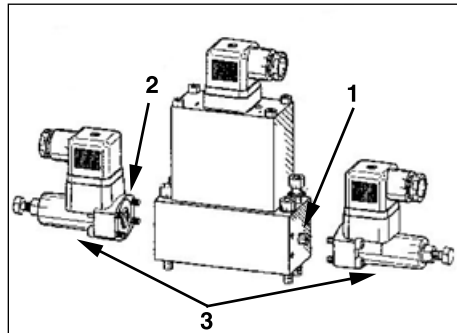

Figure 3
1. Remove cap screw and washer in end of valve body nearest port having pressure measured. (See Figure 3, No. 1).
2. Coat o-ring on pressure switch mounting surface with hydraulic oil. (See Figure 3, No. 2).
3. Install pressure switch on end of valve using cap screws provided with switch; torque to 3 FT-LBS (4-N-M). (See Figure 3, No. 3)